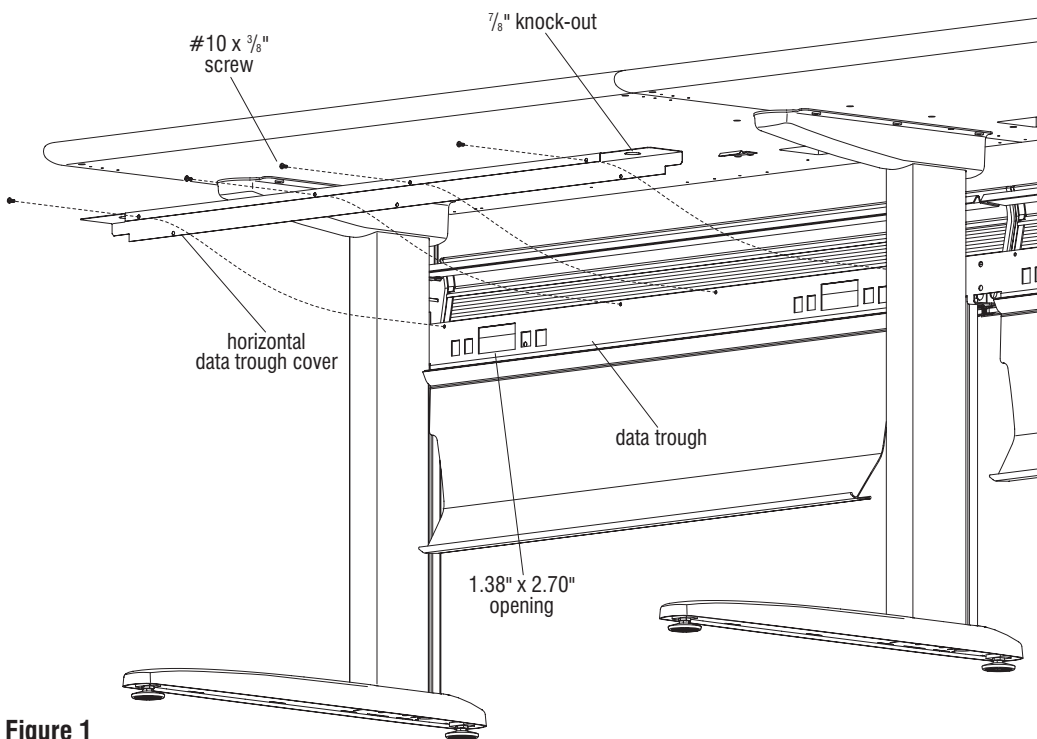

Figure 1
2. With data wires in the data trough, make appropriate connections through the data plate (not shown, snaps into the 1.38" x 2.70" opening). Data wires can also be connected to standard data connectors that will snap into the smaller rectangular holes in the data face plate (Figure 1). A data adapter plate tree is included for accommodating the various types of data jacks. Break off the proper adapter and insert into the openings in the data trough.
3. To install the data trough cover, position the long side of the cover to the backside of the table as illustrated (instructor side). Carefully maneuver the data trough cover behind the legs and set the bottom of the cover against the top of the data trough, making sure the mounting holes align. Secure the cover to the trough with #10 x 3/8" screws (Figure 1).